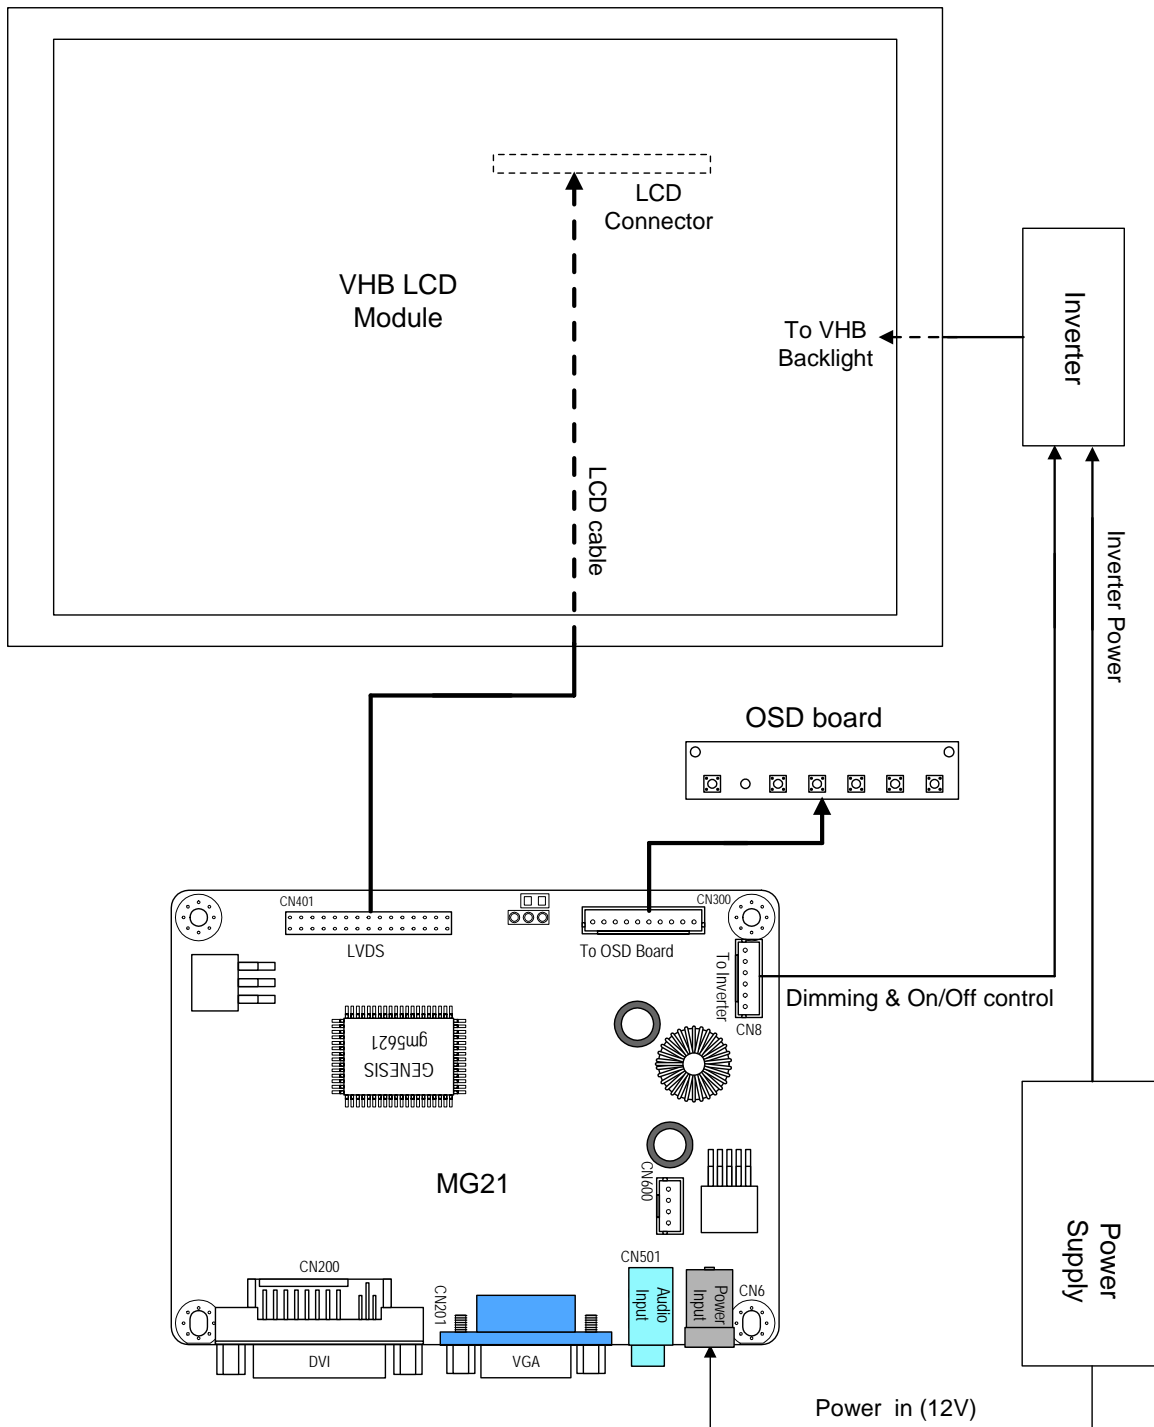

Fig. 4 - Typical Connection Diagram from the MG22 to a Landmark VHB LCD and the Inverter
- A. Make sure to use the correct parts and refer to Fig. 4 - the system connection diagram, to connect the MG21 card to the LCD correctly.
The typical connection diagram of the MG21 LCD controller to Landmark VHB LCD modules is illustrated in Fig. 4.
- A. The inverter power should go directly from the power supply as shown in Fig. 4. The 12V from the connector CN5 cannot carry the heavy inverter current load to run the VHB backlight.
Cautions – The 12V power on CN8 can run inverters for regular brightness LCDs. It does not have the current capability to run Landmark Inverters for VHB backlights. Please follow Fig. 4 on page 4 for the connections to run very high brightness LCDs.